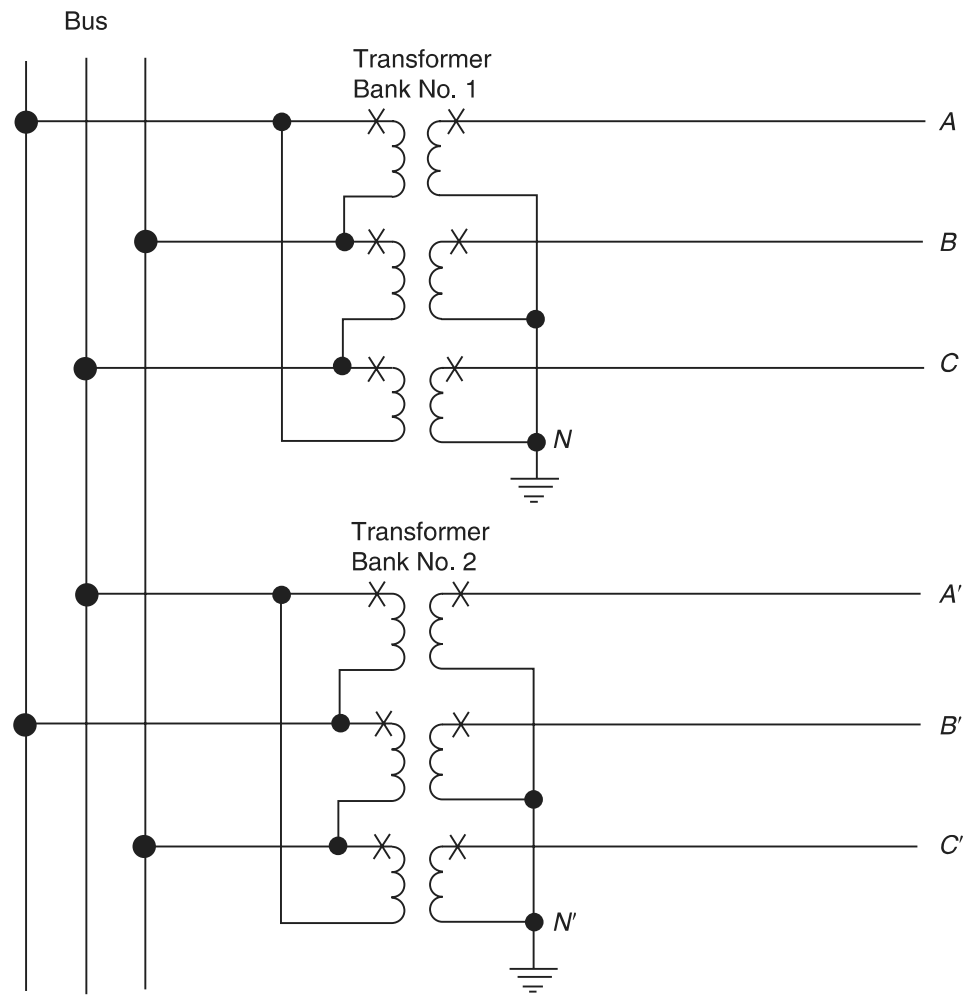

FIGURE P3.2
- 3.2** Two transformer banks are connected to a common bus as shown in Figure P3.2. What are the phase relations between the voltages V_{AN} and $V_{A'N'}$; V_{BN} and $V_{B'N'}$; V_{CN} and $V_{C'N'}$?